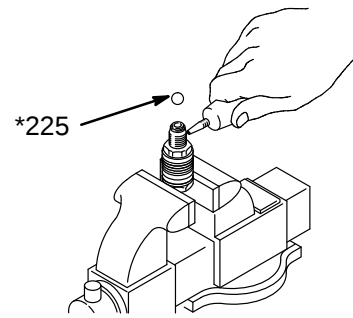

Fig. 25 02568
3. Apply one drop of Locktite to the threads. Place the ball (225*) on the piston valve. See Fig. 25.